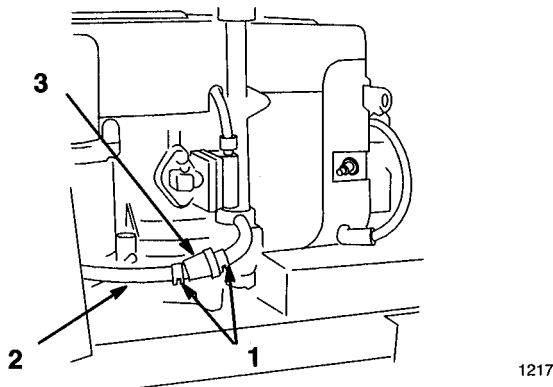

Figure 28
4. Squeeze the ends of the hose clamps together and slide them away from the filter (Fig. 28).